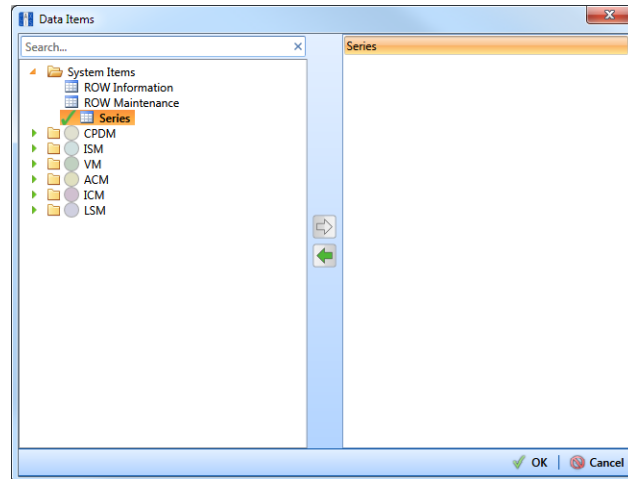

Figure 9-50. Data Items
- 7 Click  **Add Data Item** to open the *Data Items* window and then complete the following steps (Figure 9-50, page 437):